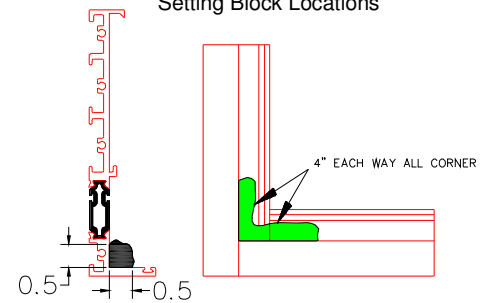

Figure 17:
3. All four corners must be sealed 1/2" x 1/2" x 4" (Figure 17) then set glass into opening.